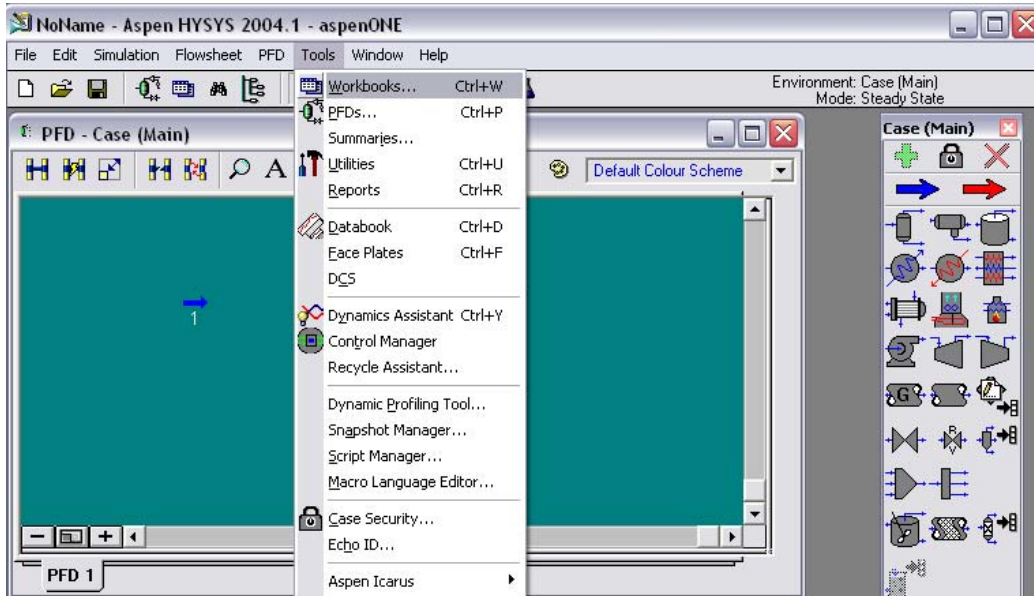

Figure 2-2
1. Go to the **Tools** menu and select **Workbooks** or click **Ctrl+W** as shown in Figure 2-2.